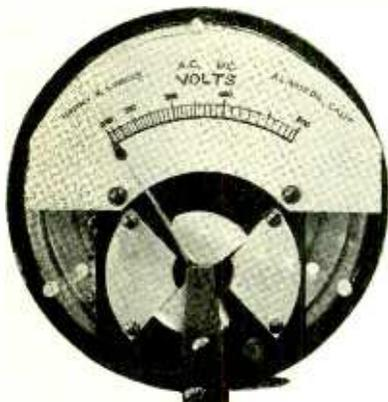

Fig. 1. Meter with Front of Case Removed
**A**N INEXPENSIVE high-range voltmeter suitable for both a.c. and d.c. measurements is shown in Fig. 1. It consumes less than .005 the current taken by the popular high-resistance meters, and can be made for perhaps fifty cents. It is an electrostatic voltmeter of simplified design. Since it